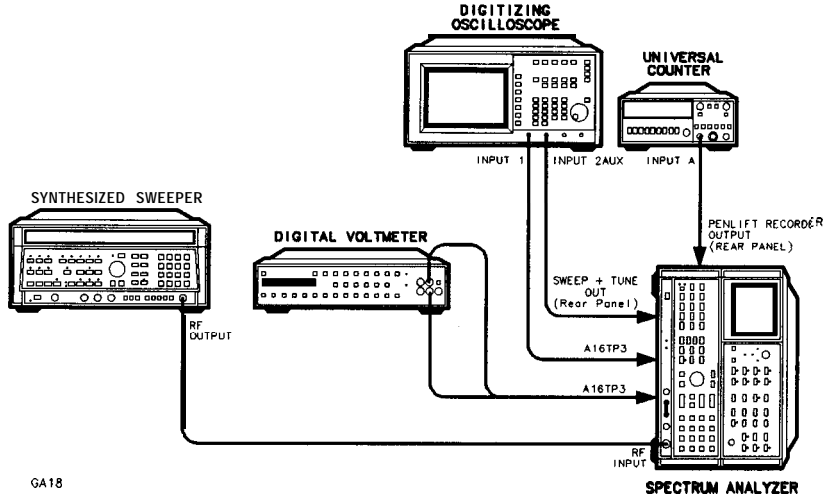

Figure 3-56. Sweep and DAC Adjustments Setup
1. Position the spectrum analyzer on its right side as shown in Figure 3-56, with bottom cover removed. Remove RF Digital Section cover over the A12 through A16 assemblies. Jumper A12TP2 to A12TP3 (Lock Indicator Disable).